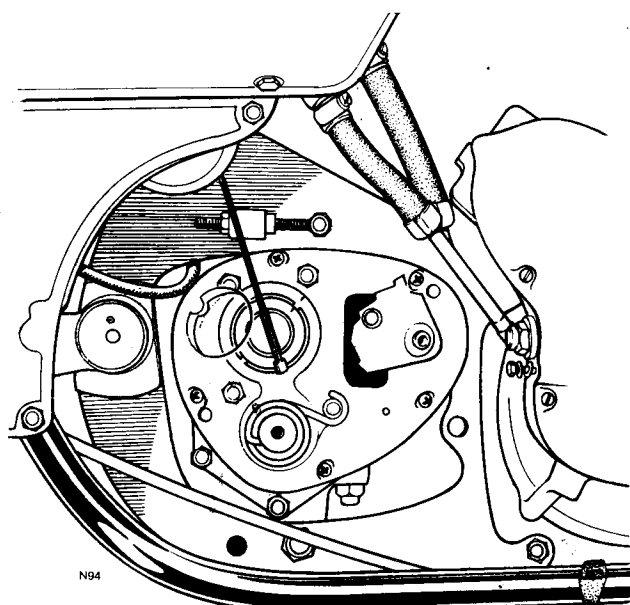

Fig. D6 Kickstart spring located. Note alignment of clutch body to permit straight pull on clutch cable and operating lever
- 3 Assemble the kickstart return spring, aligning the outboard end of the spring with the mating hole in the spindle and sliding the spring down until the spring engages in the hole. Wind the spring as illustrated in Fig. D6 to tension and engage on the spring anchor pin.
- 10 Tighten the operating lever body ring until the body is fully engaged and finally tighten the lock ring to bring the body slot directly into line with the marks previously applied to the boss in the cover. *Fig. D6* illustrates the alignment procedure during tightening of the lock ring. If a new cover is being fitted and no alignment marks are present, hold the body in the position where the clutch cable can exert a straight pull, as the lockring is tightened.